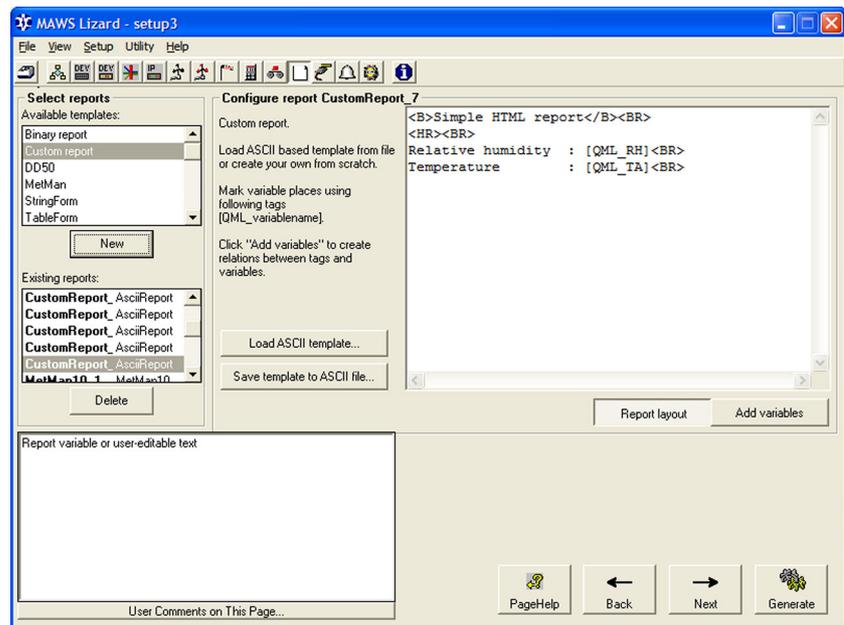

Figure 113 Creating Custom HTML Report from Scratch in Lizard Setup Software
- a. Writing the report from scratch by selecting **New**. If you select this option, a screen shown in Figure 113 on page 255 is displayed.